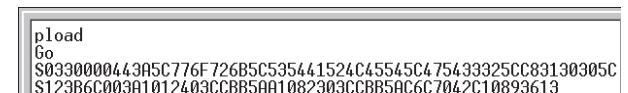

Figure 3-4 — Upload progress display
7. Click *Open*. The firmware upload begins. If you have HyperTerminal's echo function turned on, HyperTerminal displays a scroll of the text of the firmware file as it uploads to the switcher (figure 3-4).